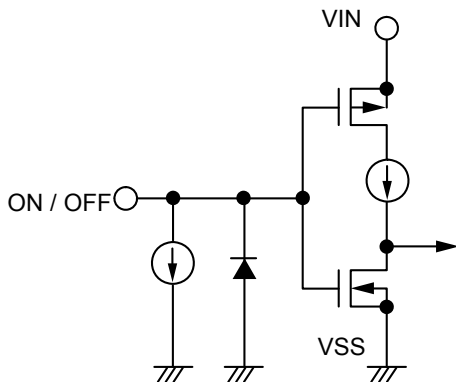

Figure 17 S-1324 Series A / C type
The internal equivalent circuit related to the ON / OFF pin is configured as shown in **Figure 17** and **Figure 18**. Note that the current consumption increases when a voltage of $V_{SL\ max.}^{*1}$ to $V_{IN} - 0.3\ V$ is applied to the ON / OFF pin.
*3. Note that the IC's current consumption increases as much as current flows into the constant current of $0.1\ \mu A$ typ. when the ON / OFF pin is connected to the VIN pin and the S-1324 Series A / C type is operating (refer to **Figure 17**).